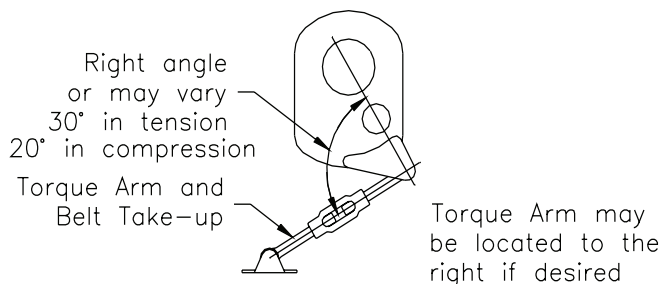

Figure 4 - Angle of Torque Arm
7. Install torque-arm fulcrum on a flat and rigid support so that the torque-arm will be approximately at right angles to the centerline through the driven shaft and the torque-arm anchor screw (see Figure 4). Make sure that there is sufficient take-up in the turnbuckle for belt tension adjustment when using v-belt drive.